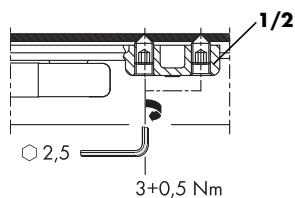

Fig. 2
- ② Secure grub screws (see Fig. 2) (torque 3 +0.5 Nm).